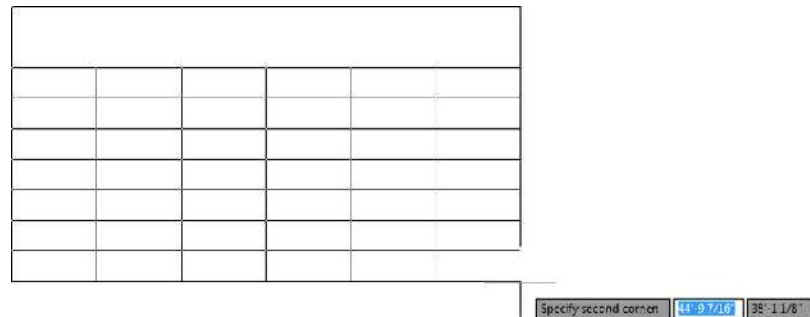

FIGURE 9.65: The new table inserted in the drawing
10. Drag the cursor across the drawing and down until the screen displays a table that has eight rows (six data rows, a header row, and a title row) and then release the mouse button (see Figure 9.65).